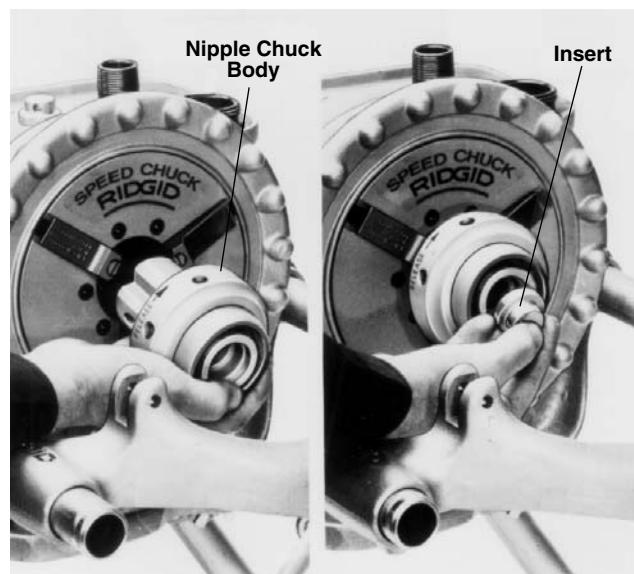

Figure 23 – Installing Nipple Chuck Body and Insert
3. Place nipple chuck body (*Figure 23*) in Power Drive chuck, gripping jaw grooves. Tighten chuck with snap spin of handwheel.
4. Position insert (*Figure 23*) with small end toward chuck body for $\frac{1}{8}$ " to $\frac{3}{4}$ " pipe; large end toward chuck body for 1" pipe; no insert required for $1\frac{1}{4}$ " pipe and up.